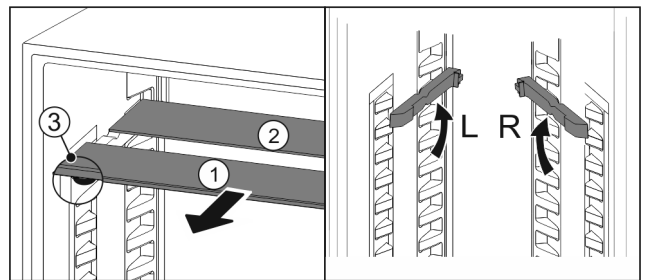

Fig. 33
- ▶ Pull the glass panels out Fig. 33 (1) from the front, one at a time.
- ▷ The glass panel Fig. 33 (1) and trim strip are at the front.
- ▷ The stops Fig. 33 (3) point down.